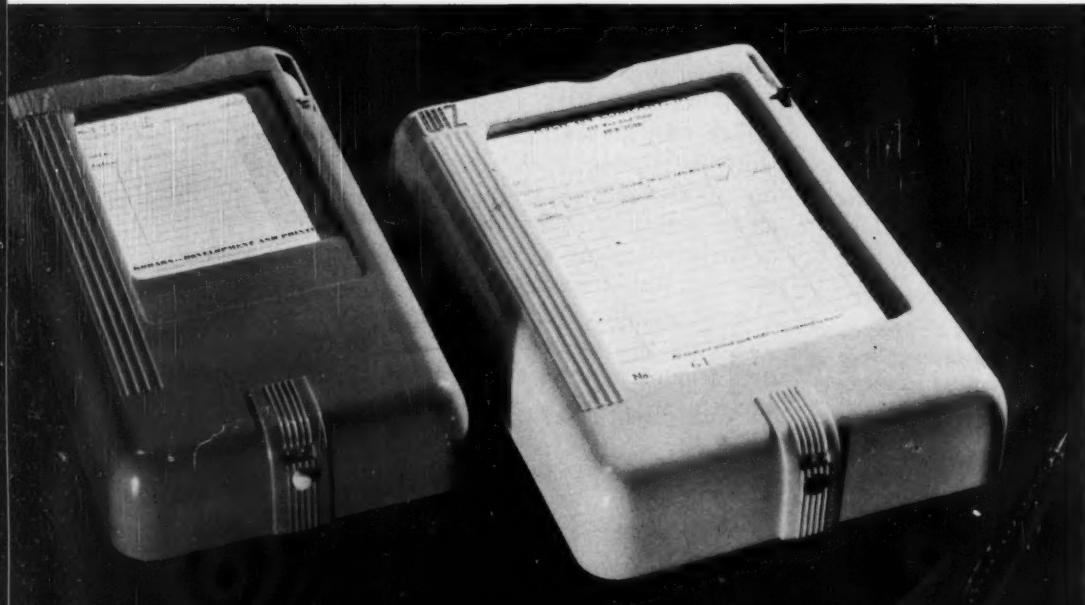

Fig. 3—Housings for office equipment are dressed up in plastics
**BUSINESS ACCESSORIES:** Plastics have made notable progress into the field of accessories for business, such as sales register housings as shown by the molded area plastic parts in Fig. 3. Interoffice and communication equipment are others.